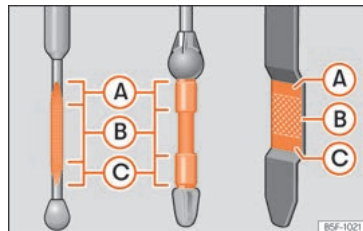

Fig. 310 Engine oil dipstick.
- Then pull it out once more and check the oil level »» Fig. 310. Top up with engine oil if necessary.
If the oil level is above area »» Fig. 310 (A), do not start the engine. This could result in damage to the engine and catalytic converter. Contact a specialised workshop.
The oil level must never be above zone »» Fig. 310 (A). Otherwise oil can be drawn in through the crankcase breather and leak into the atmosphere via the exhaust system.